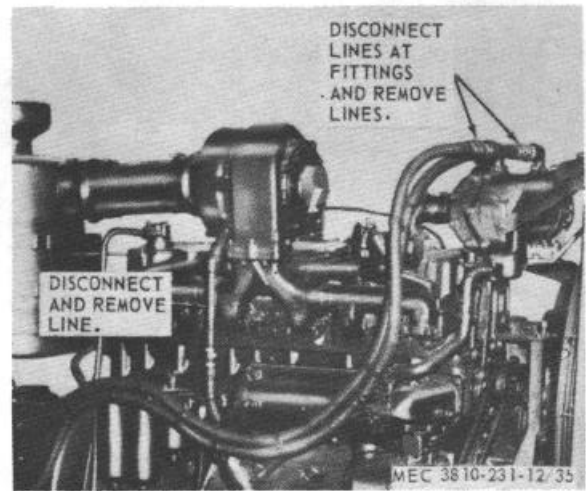

Figure 35. Oil lines and fittings, removal and installation.
a. *Removal.* Remove oil lines and fittings as shown in figure 35.
- (1) Clean all parts in an approved cleaning solvent and dry thoroughly.
- (2) Inspect for cracks, breaks, and other damage.
- (3) Replace damaged or defective parts as necessary.
c. Install oil lines and fitting as shown in figure 35.